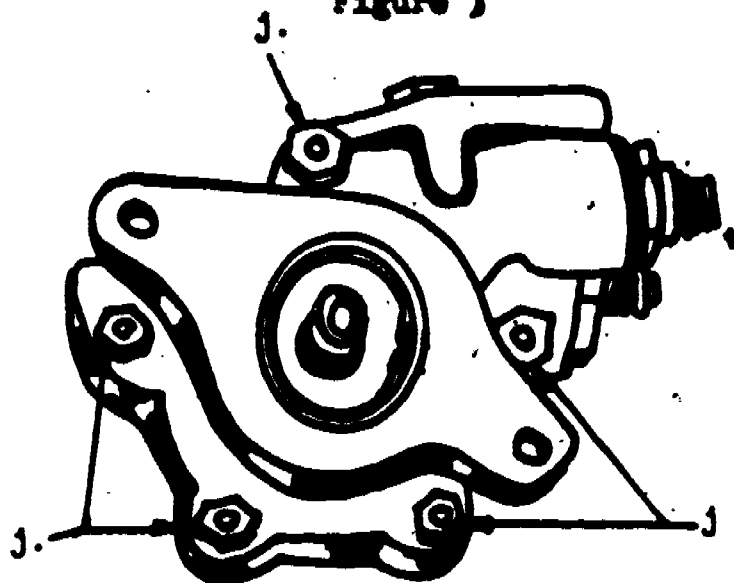

Figure 4
STEP 11. Remove the five cover to body mounting screws (Item j in Figure 4) and separate the cover from the body.